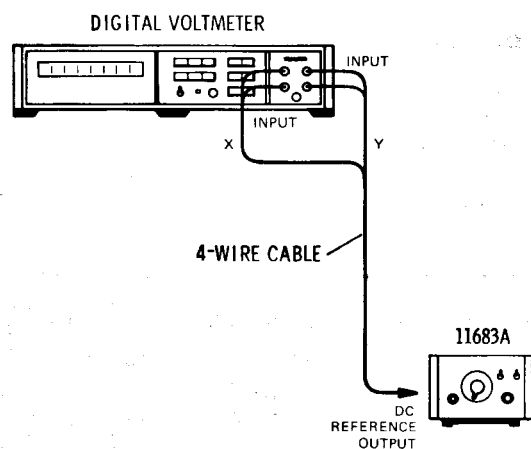

Figure 4-2 Range switch performance test setup
- 3 Connect the equipment together as shown in Figure 4-2.